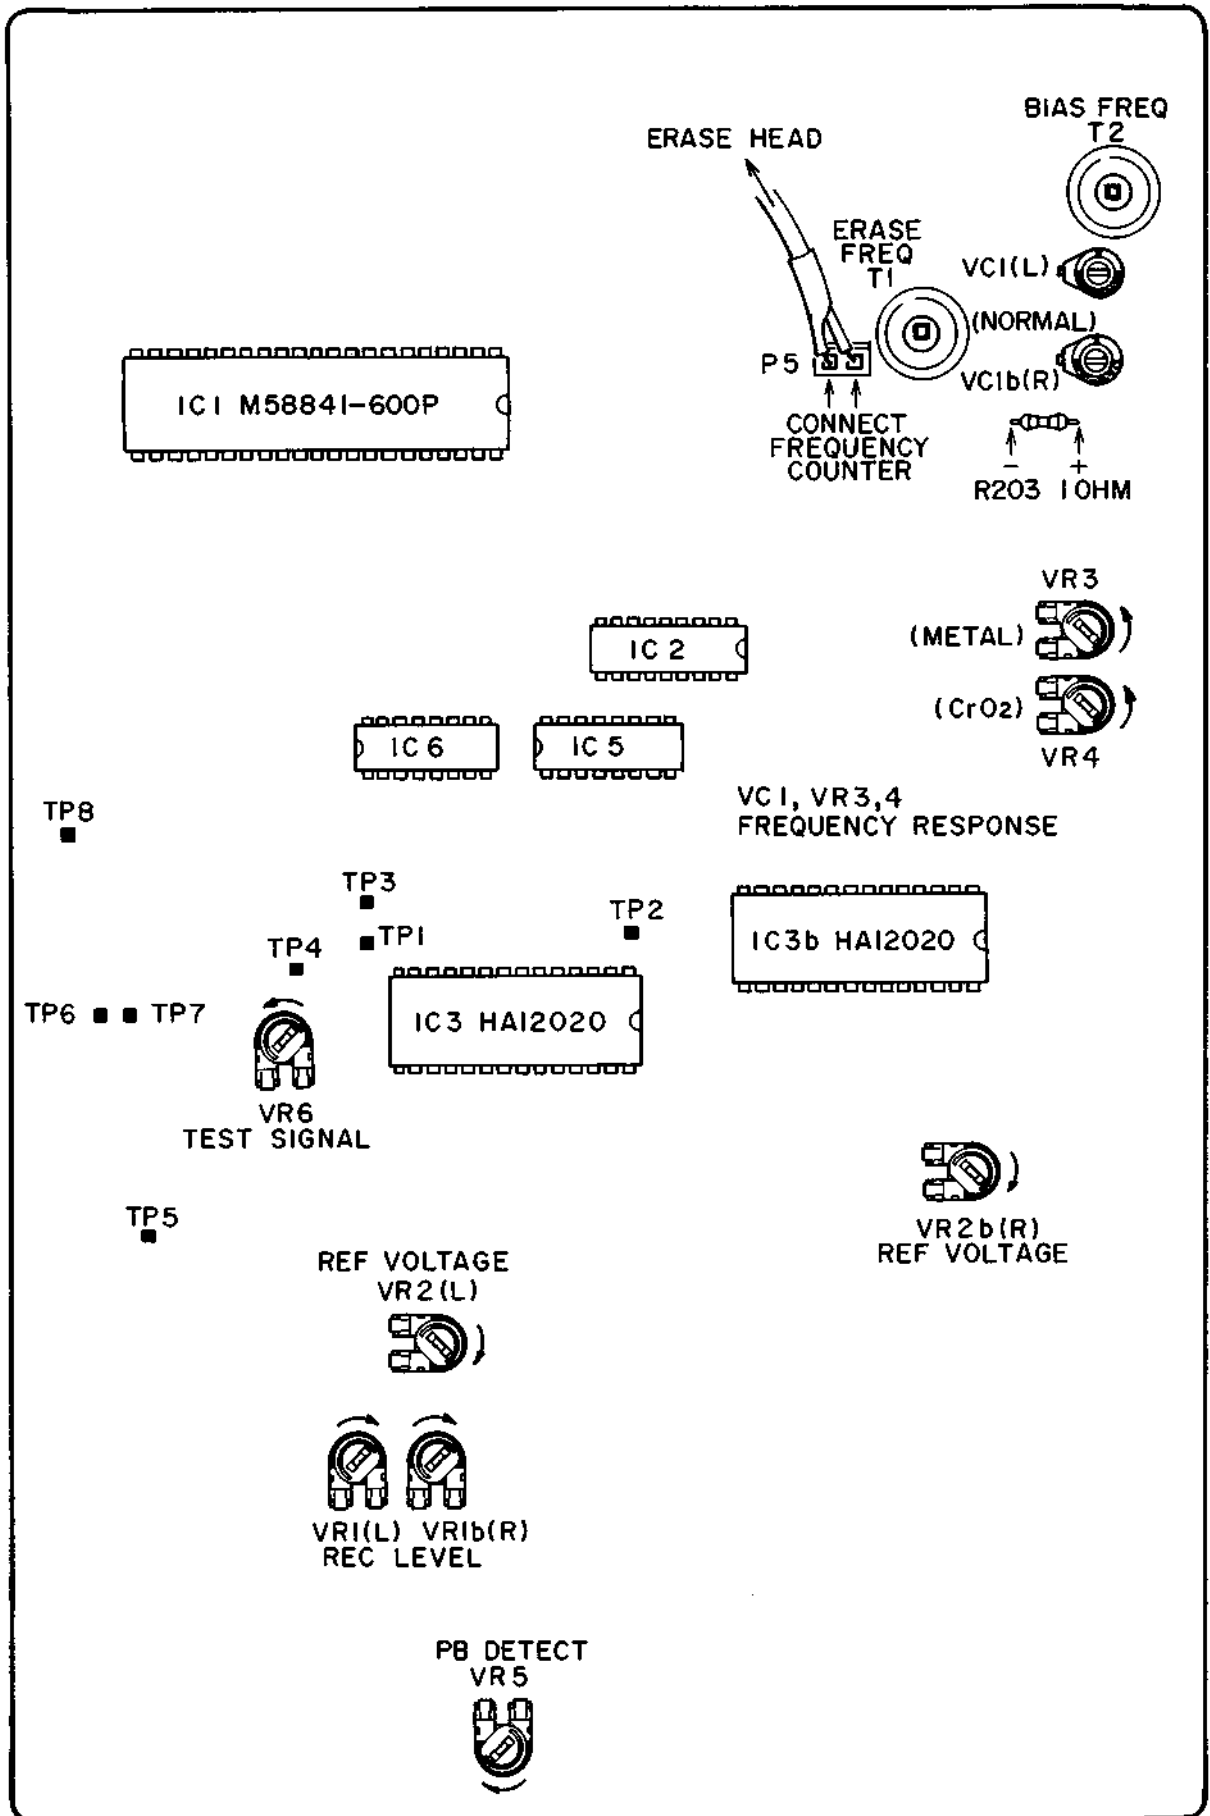

Fig. 12 Tuning P.C Board
**5. IC3 (HA12020) REFERENCE VOLTAGE****ADJUSTMENT (Fig. 12)**
- b. Adjust VR2 (L) so that the voltage to GND of TP1 will be  $1.10 \pm 0.03V$  DC.
- c. Adjust VR2b (R) so that the voltage to GND of TP2 will be  $4.00 \pm 0.05V$  DC (before SERIAL NUMBER 70401-00101),  $5.10 \pm 0.05V$  DC (after SERIAL NUMBER 70401-00101).
**6. REC BIAS OSC ADJUSTMENT (Fig. 12)**
- b. Set VC1 as shown in Fig. 12.
**7. FREQUENCY RESPONSE****ADJUSTMENT (Fig. 12)**
**8. RECORDING LEVEL ADJUSTMENT****(Fig. 12)**
**9. TEST SIGNAL ADJUSTMENT (Fig. 12)**